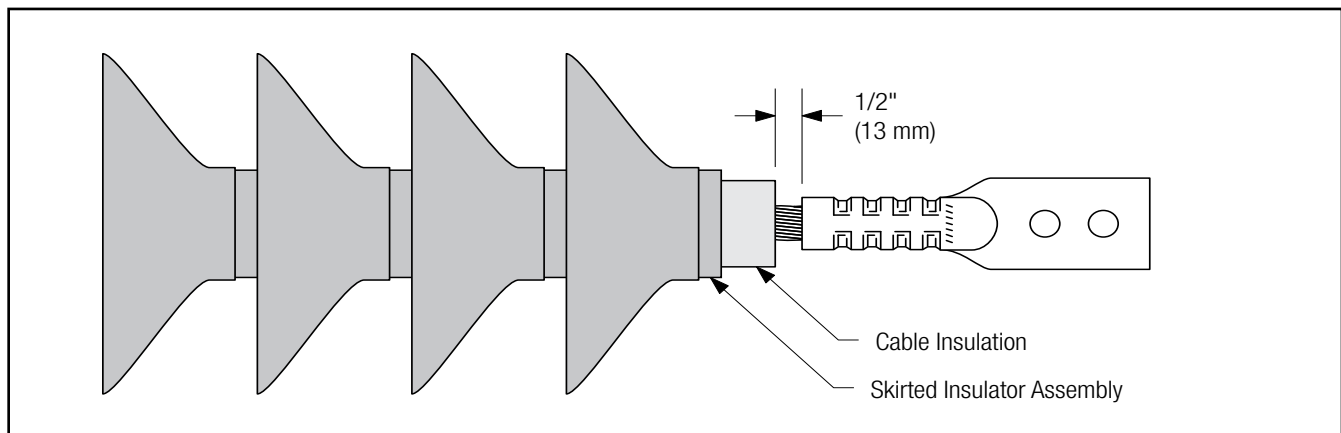

Figure 27
- 7.1 Position lug or connector and crimp according to manufacturer's directions. Remove excess oxide inhibitor and sharp crimp flashing following crimping. Figure 27 illustrates the appearance following installation of the Skirted Insulator Assembly and Lug. Note extension of approximately 1" (25 mm) cable insulation beyond the end of the installed Skirted Insulator Assembly and 1/2" (13 mm) gap from the end of the lug the cable insulation.